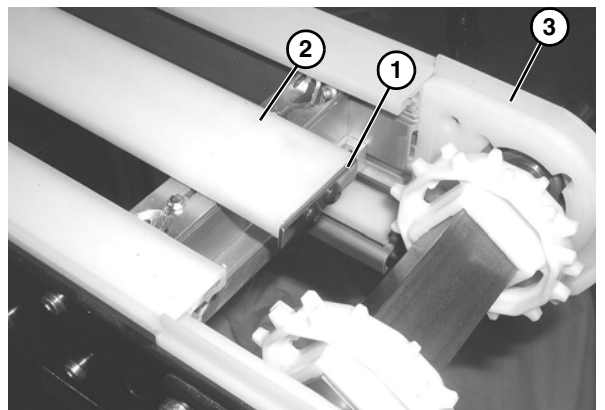

**Figure 28**
5. Remove the center wear strip (**Figure 28, item 1**) from the center frame channel (**Figure 28, item 2**).